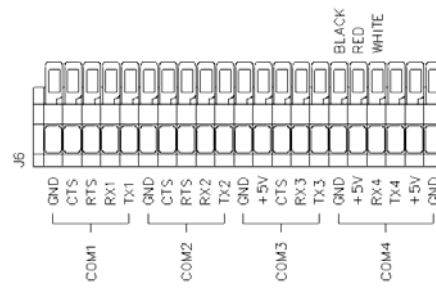

Figure 8-1: RS-232 Connector
7. Insert each wire into the proper connection on J6 of the main PC board (see Figure 8-1).